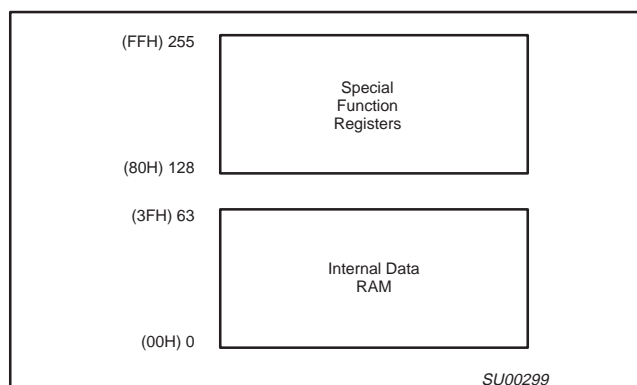

Figure 3. Memory Map
The central processing unit (CPU) manipulates operands in two address spaces as shown in Figure 3. The part's internal memory space consists of 2k bytes of program memory, and 64 bytes of data RAM overlapped with the 128-byte special function register area. The differences from the 80C51 are in RAM size (64 bytes vs. 128 bytes), in external RAM access (not available on the 83C748), in internal ROM size (2k bytes vs. 4k bytes), and in external program memory expansion (not available on the 83C748). The 128-byte special function register (SFR) space is accessed as on the 80C51 with some of the registers having been changed to reflect changes in the 83C748 peripheral functions. The stack may be located anywhere in internal RAM by loading the 8-bit stack pointer (SP). It should be noted that stack depth is limited to 64 bytes, the amount of available RAM. A reset loads the stack pointer with 07 (which is pre-incremented on a PUSH instruction).